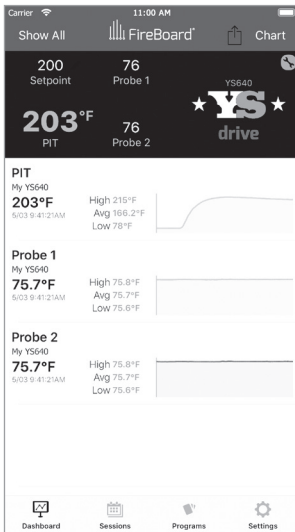

FIG 20
- You can choose between two visualizations of the running temperature data: a basic chart, and a detailed chart. You can toggle between the two by tapping on the word “Chart” or “Detail,” respectively, in the title bar area of the app. (FIG 20, 21)